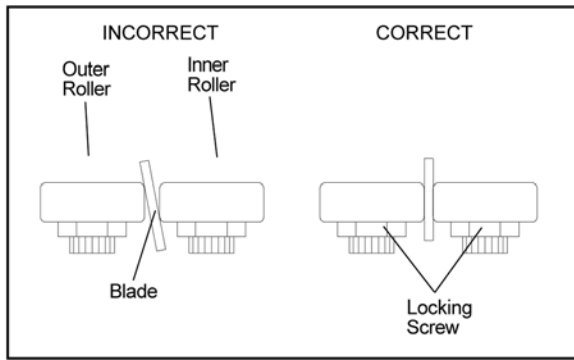

Figure 13: Blade-to-bearing orientation
4. Position the bearing by turning the bushing. Set the clearance at approximately 0.001 inch. (The blade should be in a vertical position between the bearings. (See Figure 13.)